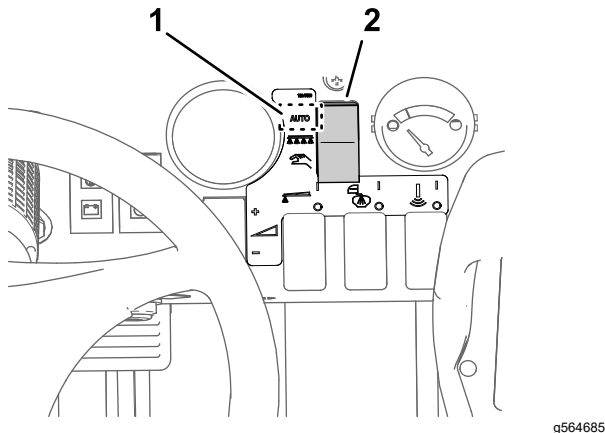

Figure 34
2. Set the sprayer mode button to the Manual Mode (Figure 34).